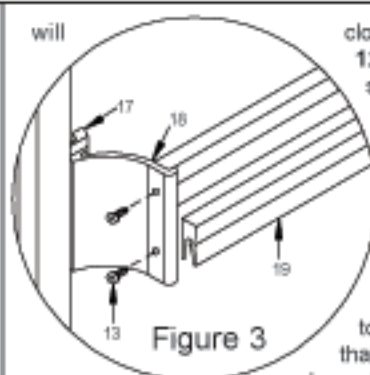

Figure 3
14. Install bumpers (4) to jamb and corner post with a 6-32 1/2" screw (5). **NOTE:** Glass panels close into the recessed portion of Bumpers (4). The recess is toward the inside of the tub on the showerhead jamb and toward the outside on the corner post.
15. To set the slider pulls (17) and towel bar brackets (18), first remove any masking tape that was used to hold the vinyl in place. Now on the inside slider, push or gently tap the four pulls (17) into place in the 3" gaps left between the two ends of the glazing vinyl (9).
16. Repeat Step #13 on the outside slider making sure that the towel bar brackets (18) are on the outside. Assemble towel bars (19) to towel bar brackets with four #6 x 3/8" SMS screws (13). (See Figure 3.)